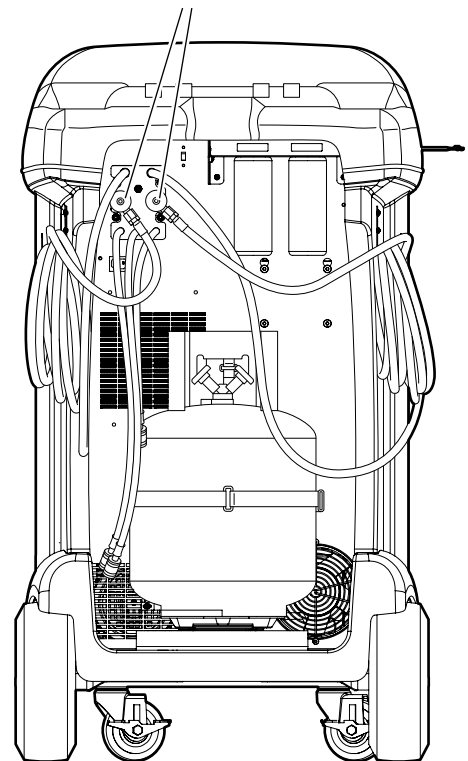

Figure 3
2. When prompted, connect the service hoses from the machine to their storage ports as shown in Figure 3. Verify tank hoses are connected and valves are open. Select **▶▶** to continue.